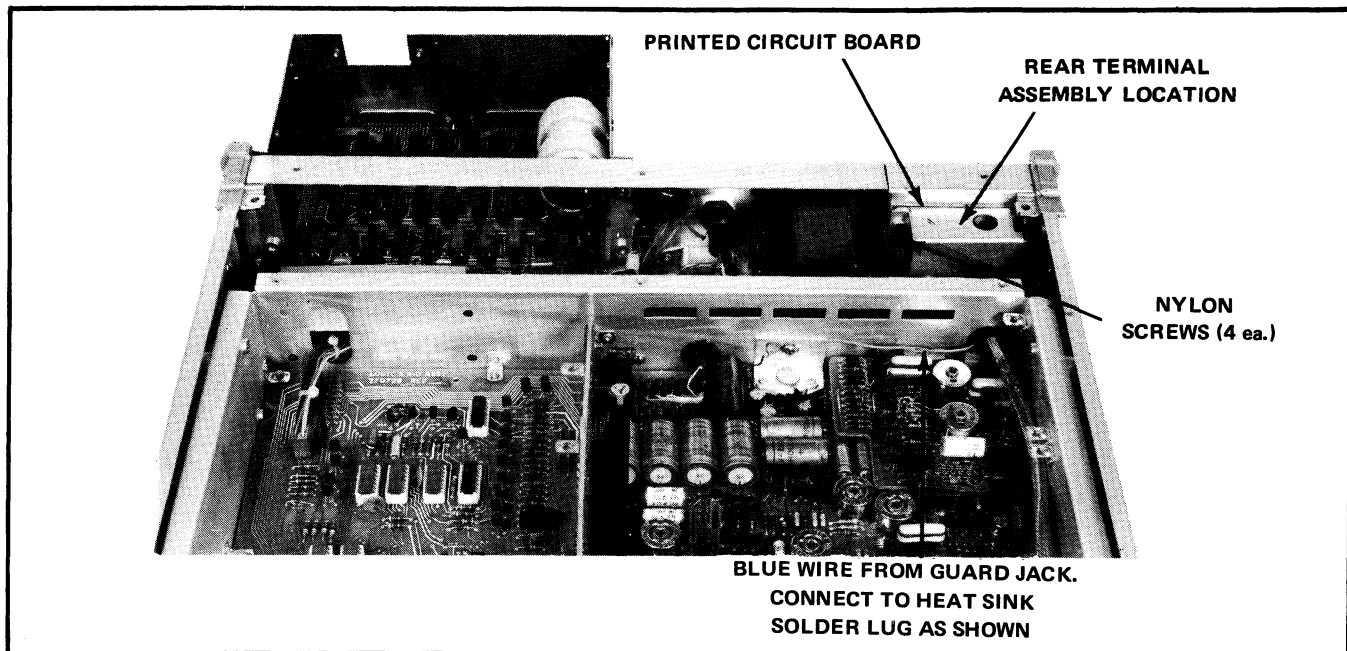

Figure 6-2. REAR TERMINAL BOARD INSTALLATION
- IMPORTANT** — Position the assembled accessory board inside the rear panel at the right-hand side of panel (See Figure 6-2), and secure the board in
- Pass the free end of the blue wire through the grommated hole in the guard chassis and connect it to the guard chassis as shown in Figure 6-2.